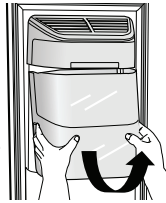

Figure 1
- Hold the handle as shown in figure 1.